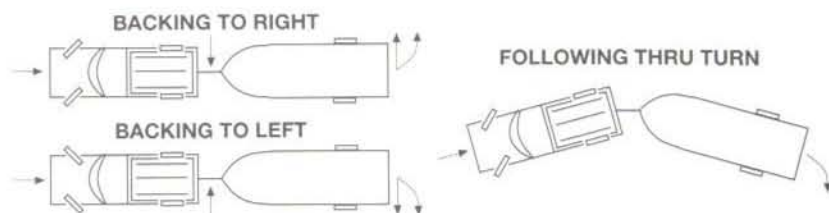

FIGURE 3.1 — TRAILERING
**NOTE:** If you do not have experience in backing a trailer, then **Practice**. Take your trailer to an open area and get accustomed to using it before you get into a confined launch site. Figure 3.1 shows proper towing vehicle wheel alignment when backing up with trailer.